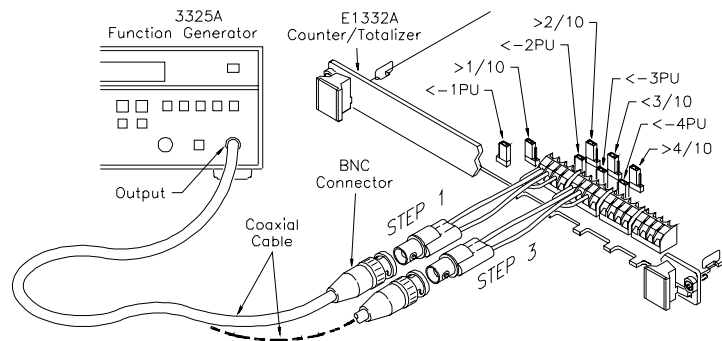

Figure 4-11. Time Interval Test Setup
1. Connect the equipment as shown in Figure 4-11.